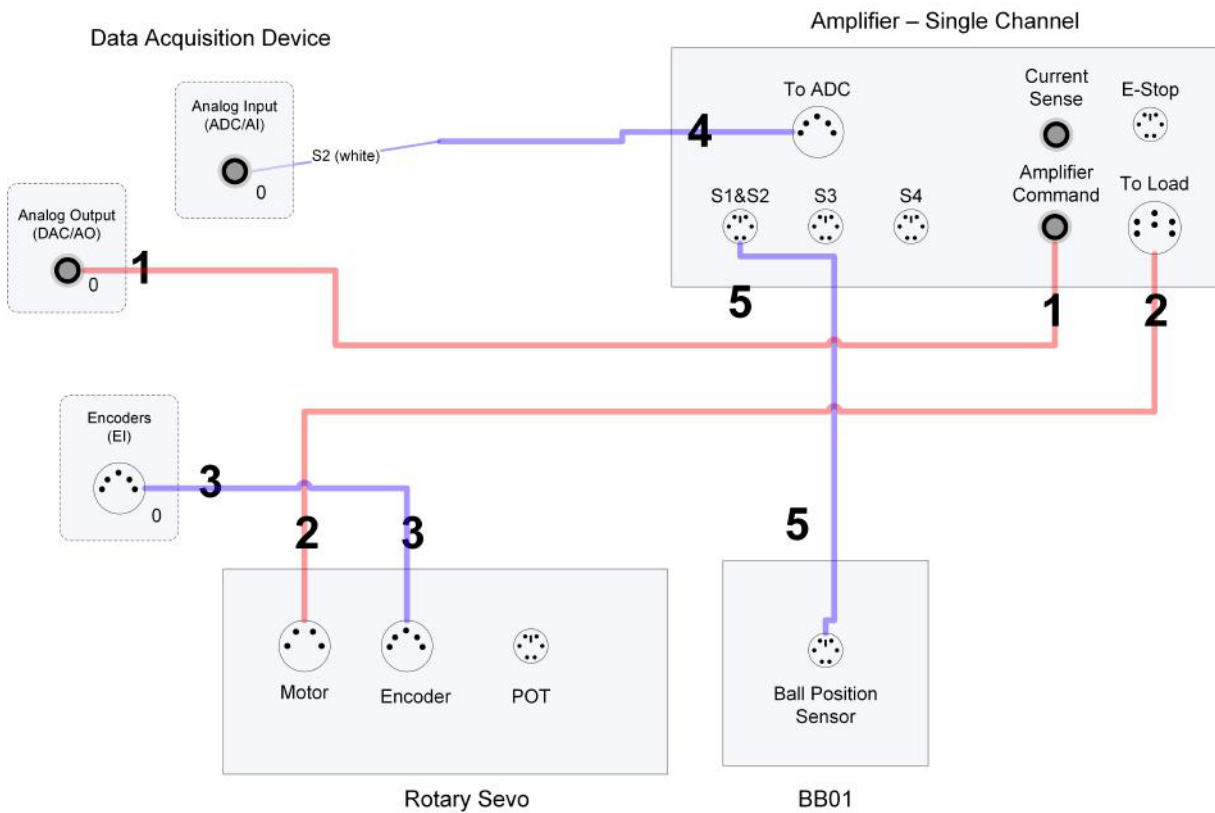

Figure 5.1: Ball and Beam connections using generic DAQ with a single-channel amplifier
This section describes the typical connections used to connect the Rotary Servo plant to a data-acquisition board and a single-channel power amplifier. The connections are given in Table 5.2 and illustrated in Figure 5.1. The detailed wiring procedure is given below as well.
Note: The data acquisition (DAQ) device used in Figure 5.1 is representative for any DAQ device.
3. Connect one end of the 2xRCA to 2xRCA cable from the Analog Output Channel #0 on the data acquisition (DAQ) device to the *Amplifier Command* connector on the amplifier, i.e. use both white or both red RCA connectors. See cable #1 shown in Figure 5.1. This carries the attenuated motor voltage control signal, V_m/K_a , where K_a is the amplifier gain.
4. Connect the 4-pin-stereo-DIN to 6-pin-stereo-DIN cable from *To Load* connector on the amplifier to the *Motor* connector on the Rotary Servo. See connection #2 shown in Figure 5.1. The cable transmits the amplified voltage that is applied to the Rotary Servo motor and is denoted V_m .
5. Connect the 5-pin-stereo-DIN to 5-pin-stereo-DIN cable from the *Encoder* connector on the Rotary Servo panel to Encoder Input # 0 on the DAQ device, as depicted by connection #3 in Figure 5.1. This carries the load shaft angle measurement and is denoted by the variable θ_l .
7. Connect the *Ball Position Sensor* connector from the Ball and Beam to the *S1&S2* socket on the amplifier using the 6-pin-mini-DIN to 6-pin-mini-DIN cable. See connection #5 in Figure 5.1. This carries the the measured ball position from the beam potentiometer and is denoted by variable x .